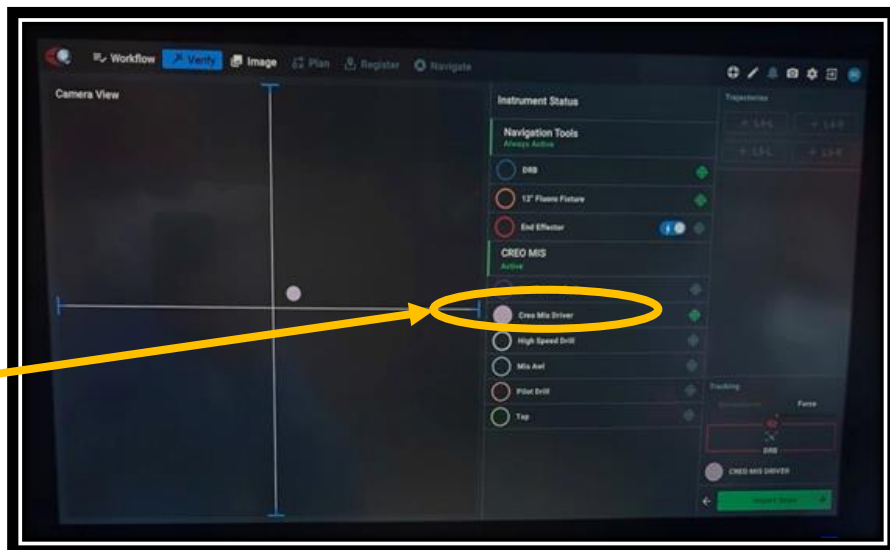

Figure 8
- A **SOLID FILLED CIRCLE** to the left of the instrument description indicates that the Instrument is **VISIBLE** to the camera (Figure 8).